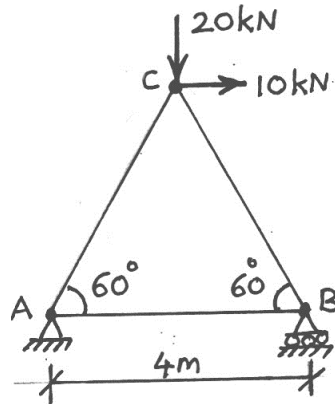

Fig. Q2
- 2. Analyze the pin-jointed plane truss shown in Fig. Q2, by direct stiffness method. 20